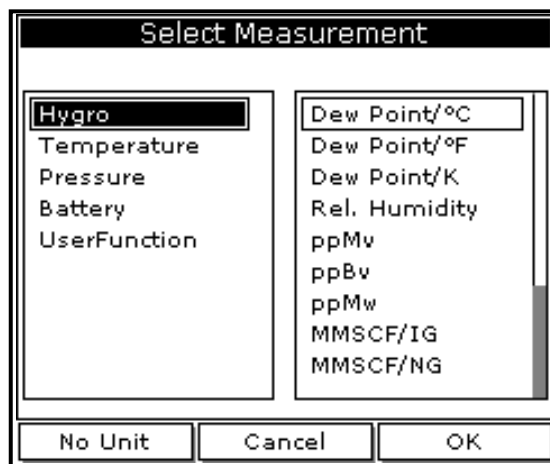

Figure 37: Select Measurement Window
1. Use the [▼] key to step to a box and press [ENTER]. A screen similar to *Figure 37* appears.